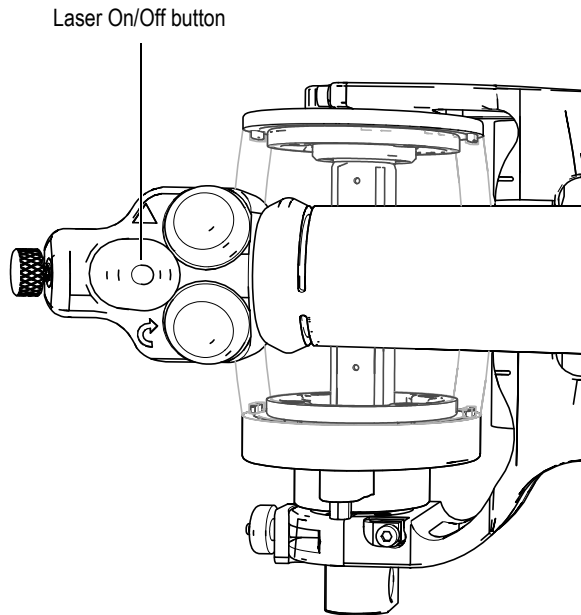

Figure 5-3 Laser On/Off button on top of the laser casing
3. On the top of the laser casing, press the red On/Off button to activate the laser (Figure 5-3 on page 72).
19. On the top of the laser casing, press the red On/Off button to deactivate the laser (Figure 5-3 on page 72).